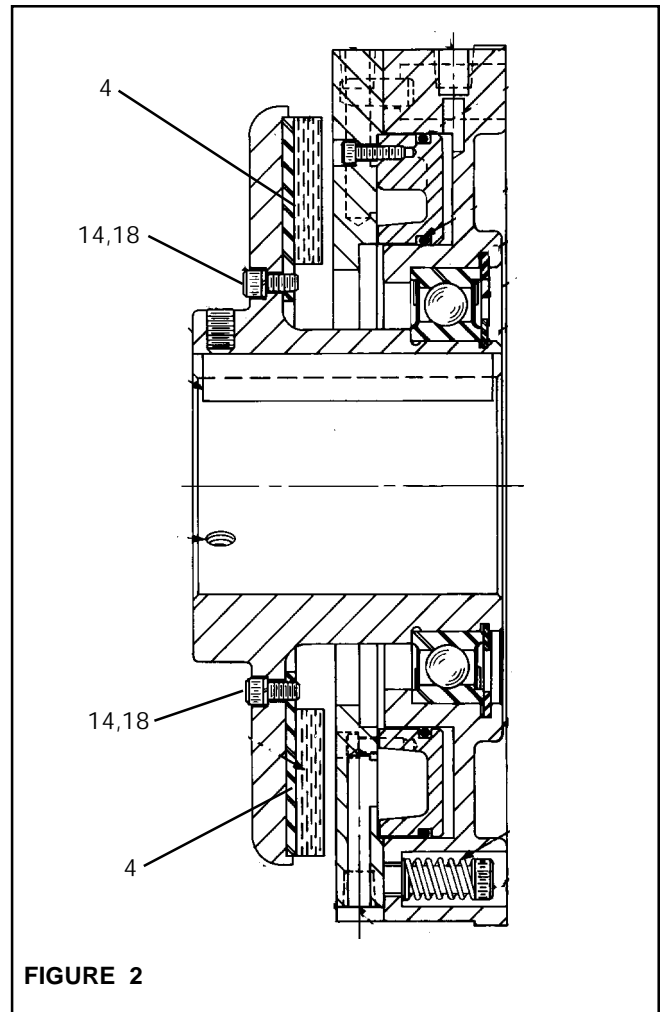

FIGURE 2
1. Remove the six Socket Head Cap Screws (Item 14) and Lock Washers (Item 18) (See Figure 2).
2. Remove the old split Friction Facing (Item 4) (See Figure 2).